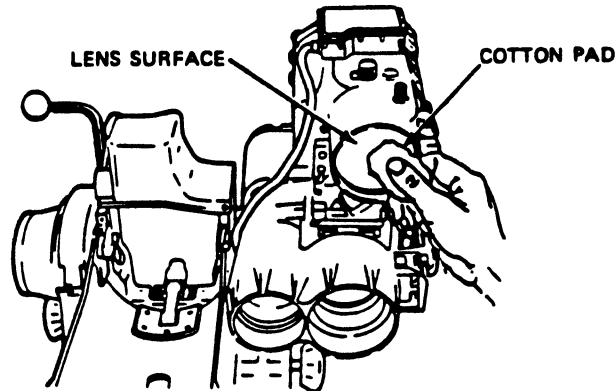

Fig 5-6. Lens surface/cotton pad.
2. Lightly dab (DO NOT RUB) the pad with the lens cleaning solution on the lens surface, covering the surface completely (fig 5-6).